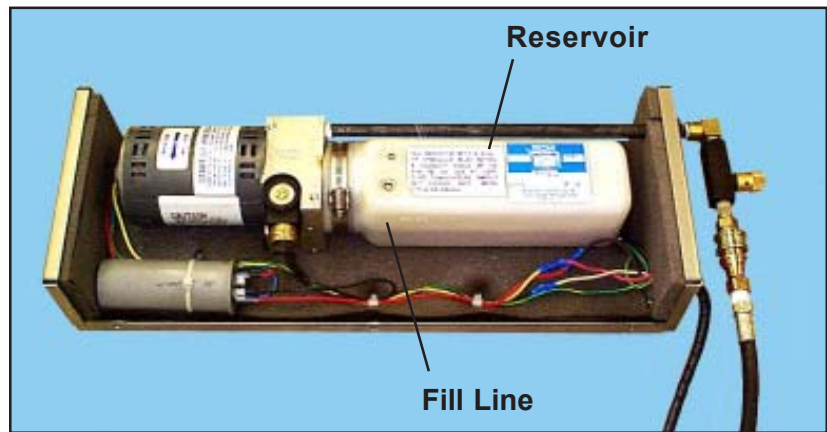

Figure 36. Power Pack Reservoir and Fill Line
21. Check the fluid level at the fill line on the reservoir in the power pack (Figure 36).